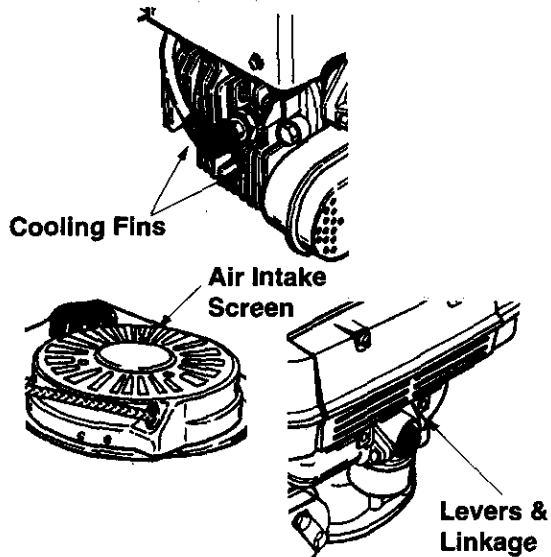

Figure 14
- Frequently remove dirt and debris from cooling fins, and air intake screen. See Figure 14.
- To ensure smooth operation of the engine, keep the governor linkage, springs and controls free of debris. This will help ensure adequate cooling and correct engine speed. See Figure 14.